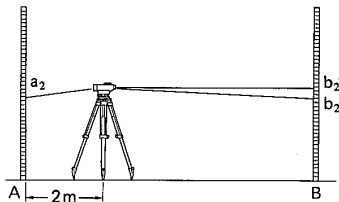
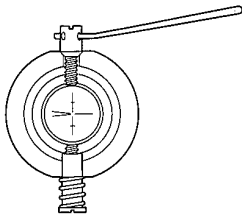

Fig.7.6
Fig.7.8
- 2) Set the instrument at a point 2 m from point A. Take readings a_2 and b_2 . (Fig.7.6)
- 4) Use the adjusting pin to eliminate the difference between b_2' and b_2 . (See "11. STANDARD EQUIPMENT".) In the example shown in Fig.7.6 b_2 is larger than b_2' . The horizontal line needs to be lowered. To lower the horizontal line, carefully loosen the adjusting screw by a small amount using the adjusting pin 17. To raise the horizontal line, tighten the adjusting screw. (Fig.7.8)